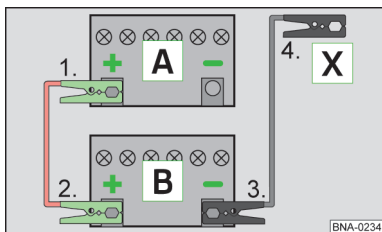

Fig. 88
- Connect one end of the *red* jump lead to the positive terminal » fig. 88 on the vehicle with the discharged battery **A** .
- Connect one end of the *black* jump lead to the negative terminal of the battery providing the power **B** » fig. 88.